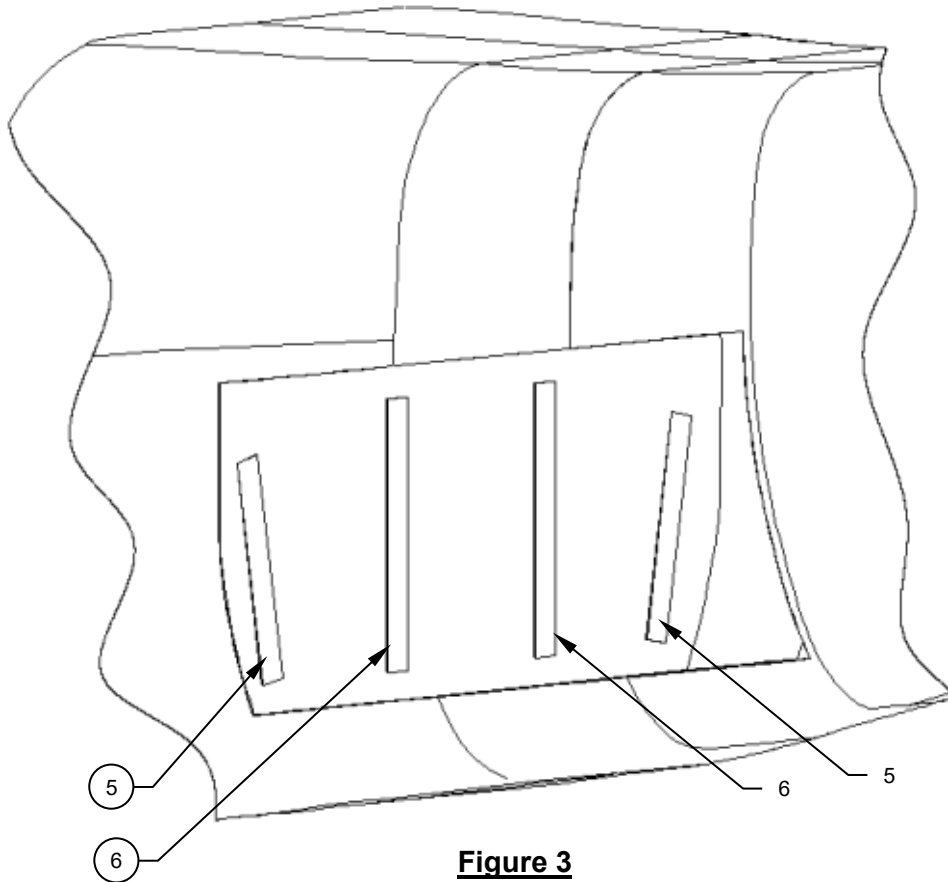

Figure 3
6. Using the felt pen marks as reference points, apply the Velcro, Details (Items 5 & 6) to the honeycomb panel in their respective locations. Reference Figure 3. Apply adequate pressure to ensure a secure bond.